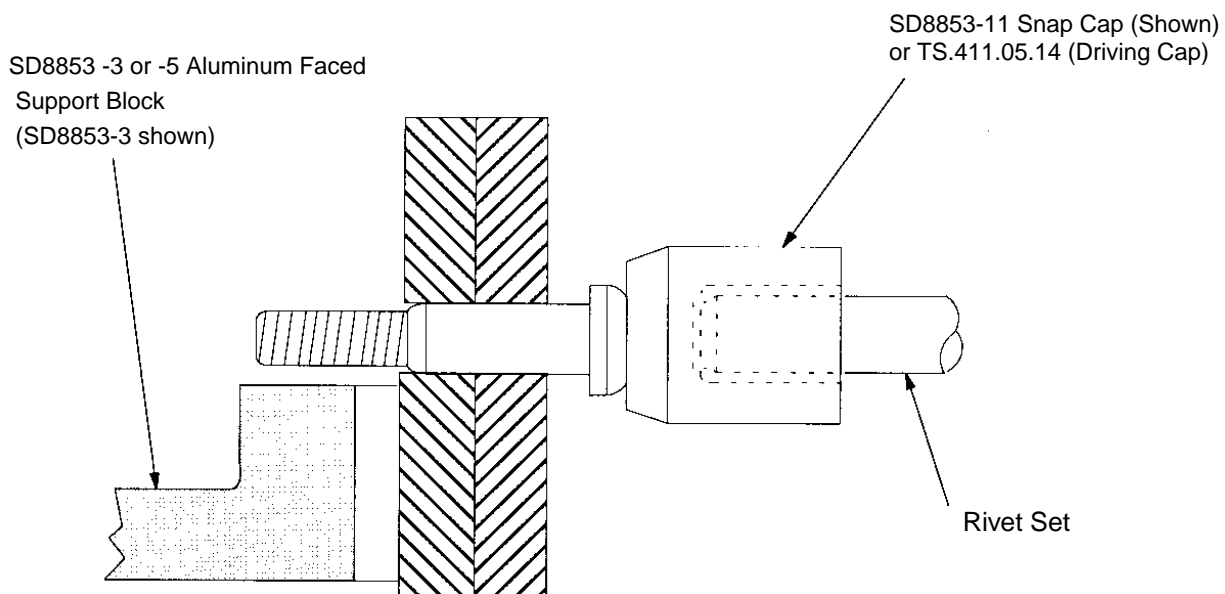

Figure 6 - Seating of Pin using a Rivet Gun
- 5.5.4 If squeeze riveting is not possible, seat the pin using a light rivet gun according to PPS 1.14. Fit the rivet gun with a special flush rivet set or a standard rivet set with an aluminum snap cap to prevent damaging the pin head, for both flush head and protruding head pins. If the driving force required to seat the pin is high (i.e., maximum interference or thick material gauge), support the reverse side of the structure using SD8853-3 or -5 aluminum faced support blocks to prevent damage to the structure (this is particularly important when inserting pins into bonded composite structure as delamination may occur if the reverse side is not supported properly - see Figure 6).